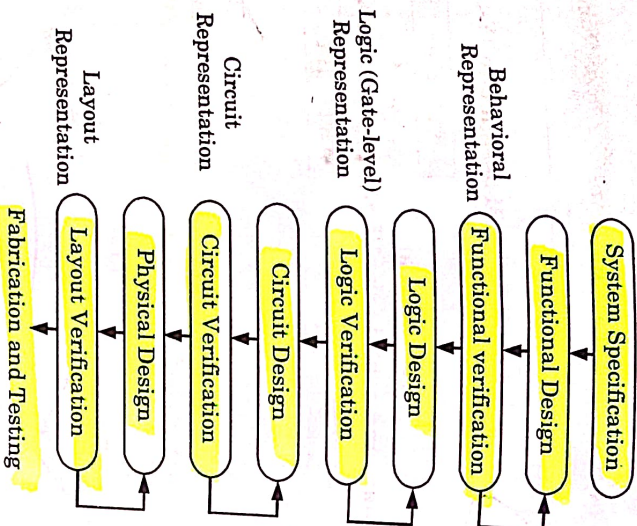

Fig. 1.1.2.
- The corresponding architecture of the processor is then defined. It is mapped onto the chip surface by floor-planning as shown in Fig. 1.1.2.
- The last stage involves implementation of leaf and mask generation. Fig. 1.1.2 below provides a more simplified view of the VLSI design flow.